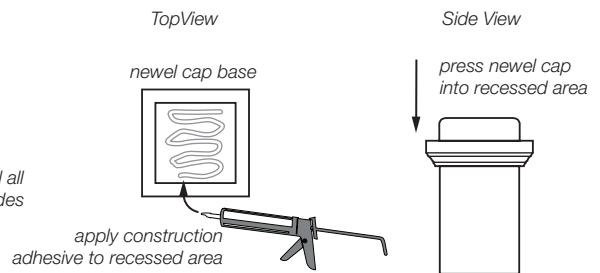

figure 12
3. Apply construction adhesive to recessed area on top of newel cap base. Then press flat or pyramid cap into recessed area (figure 12).